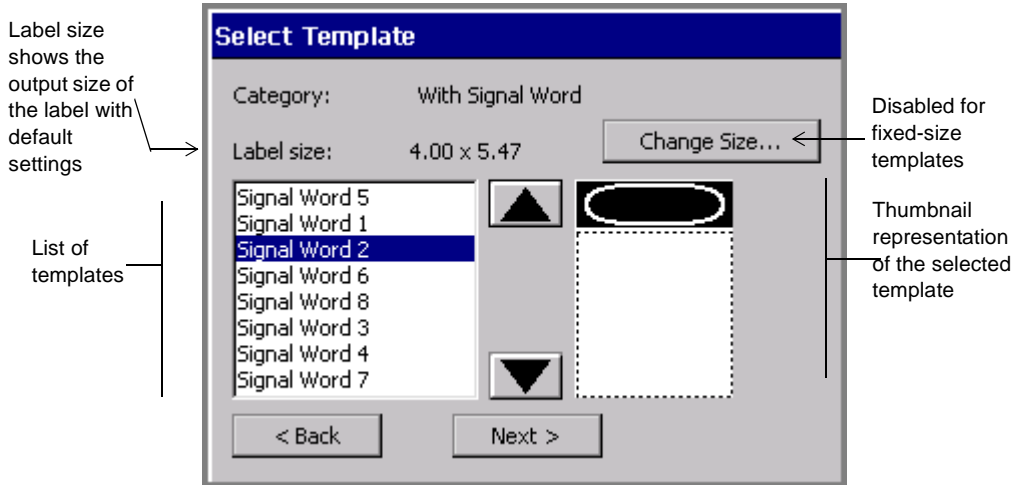

Figure 6-8. The Select Template screen
- The list of templates provides a miniature graphic representation (called a “thumbnail”) for the highlighted template. This feature may help you choose the appropriate template for your purpose. In the template shown in Figure 6-8, for instance, you’ll be prompted to add a graphic sign header (or *signal word*) to the top part of the label, and a text object to the bottom part. Using the template shown in Figure 6-8 above, you could create a label that looks like this: